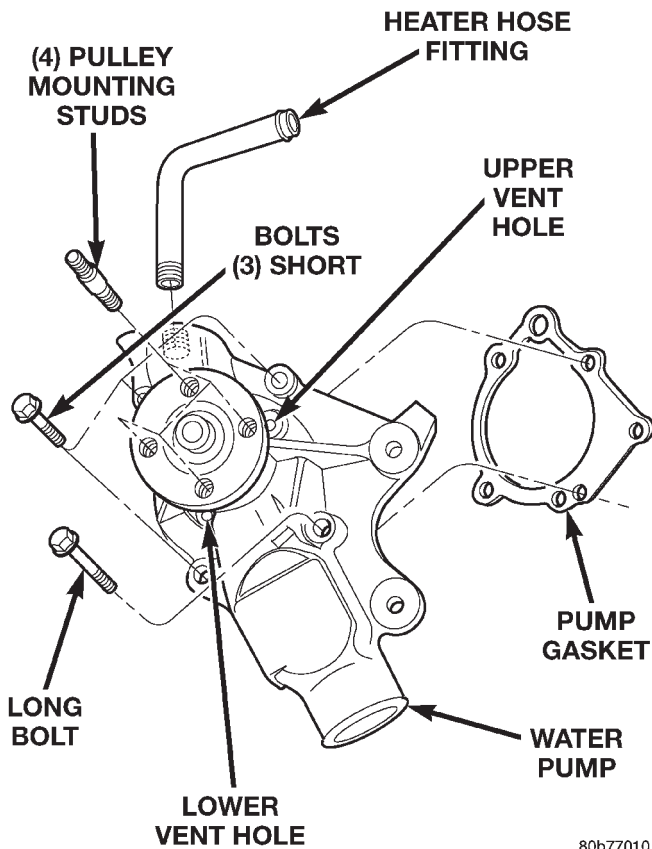

Fig. 22 Water Pump Remove/Install—Typical
(6) Remove lower radiator hose from water pump. Remove heater hose from water pump fitting.
(7) Remove four nuts previously loosened and remove the fan blade assembly and pulley.
(8) After removing fan blade/viscous fan drive assembly, **do not** place thermal viscous fan drive in horizontal position. If stored horizontally, silicone fluid in viscous fan drive could drain into its bearing assembly and contaminate lubricant.
(9) Remove the four pump mounting bolts (Fig. 22) and remove pump from vehicle. Discard old gasket. Note that one of the four bolts is longer than the other bolts.
(10) If pump is to be replaced, the heater hose fitting must be removed. Note position of fitting before removal.